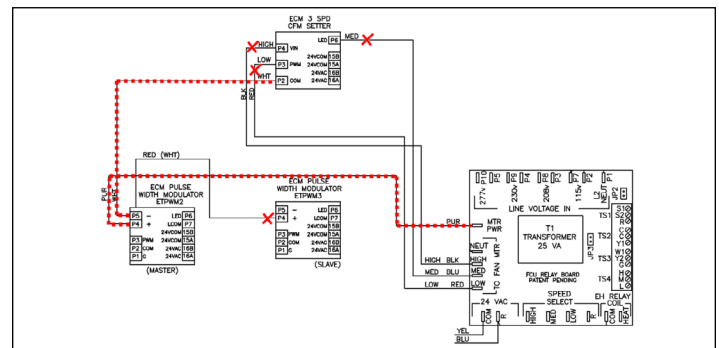

Figure 10 – Remove 2-10VDC motor control signal
REMOVE FAN CONTROL WIRES AND ETPWM2/ETPWM3 BOARDS FROM EACH OTHER (SEE FIGURE 10)
- Lift wire between the back of ETPWM2 board and P4 of ETPWM3 (RED/WHT in Figure 10, but color may vary depending on unit).